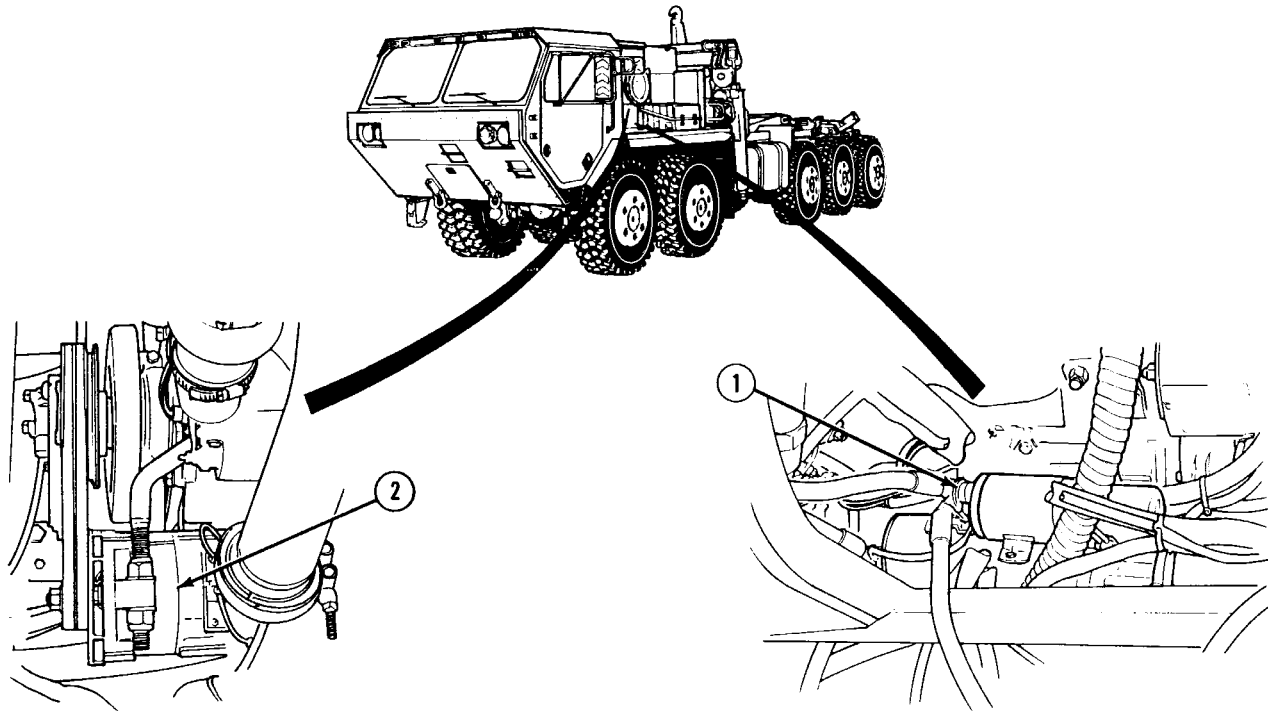

Figure 1-11. Electrical System
In the electrical system (Figure 1-11) a heavy duty starting motor (1) is mounted on the engine flywheel housing and provides the cranking power necessary for starting the engine. The DUVAC maintains both a 14- and 28-volt level for proper battery charging. The alternator (2) provides sufficient amperage to operate all electrical components and charge the batteries during engine idling. Truck exterior lights are mounted in protective locations or are protected to prevent damage. Protection is provided for lights during cross country travel. Polycarbonate lenses are provided for all lights except the sealed beam headlights and service lights. The PLS electrical system supplies all of the electrical power needed to operate the truck and trailer. The complete electrical system is made up of the following sub-systems:
a. Power Storage and Generating. Power storage for the truck consists of four 12-volt batteries. The four batteries are divided into two sets. Two batteries in each set are wired in parallel to produce higher amperage. The two sets are then wired in series to produce 24 volts. While the batteries can power all of the systems for a limited time, their primary purpose is to supply power to the engine's starting system. Once the engine is running, the generating system provides the electrical power for all of the systems. The engine driven alternator generates alternating current (AC) which is passed through a set of rectifiers that change it into direct current (DC). This direct current is used to charge the batteries and is distributed to the other systems of the PLS. The DUVAC adjusts alternator output to fit the needs of the electrical system.